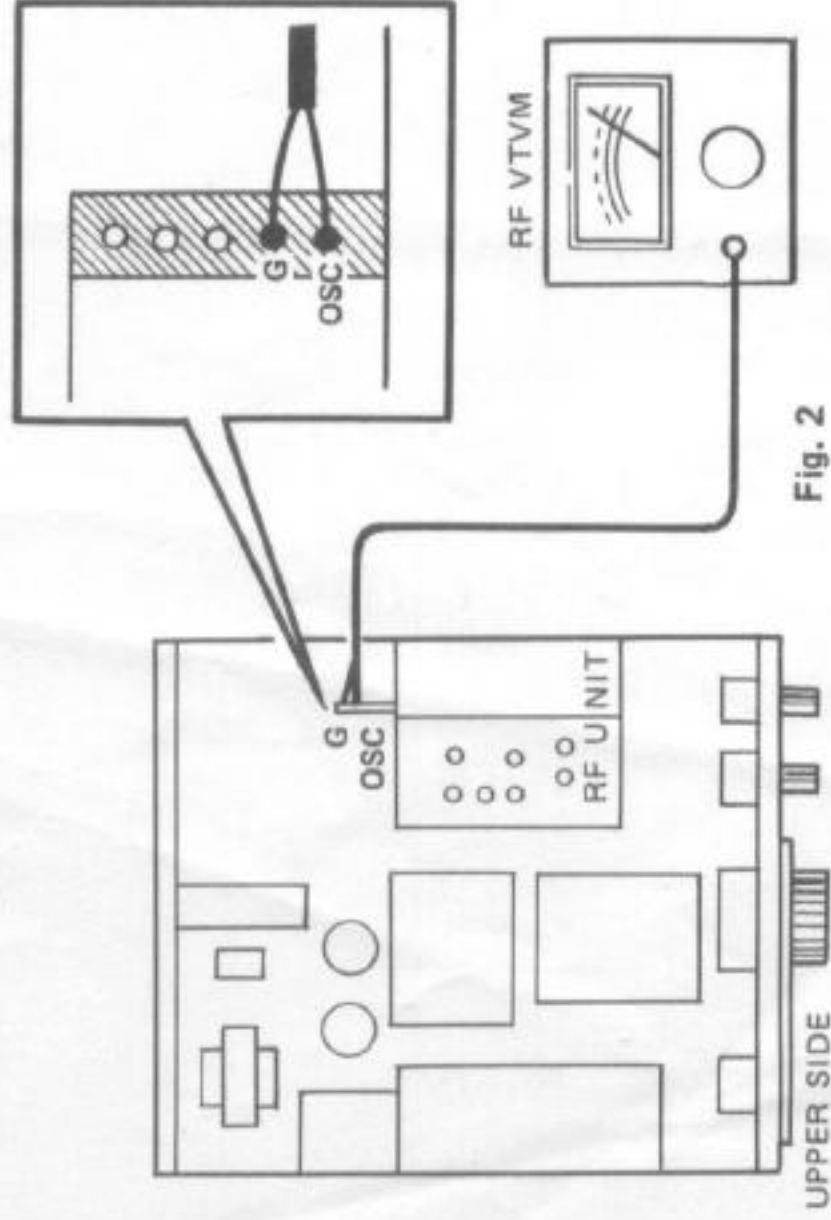

Fig. 2
2. Connect an RF VTVM to the OSC and G terminals on the RF unit as shown in Figure 2.